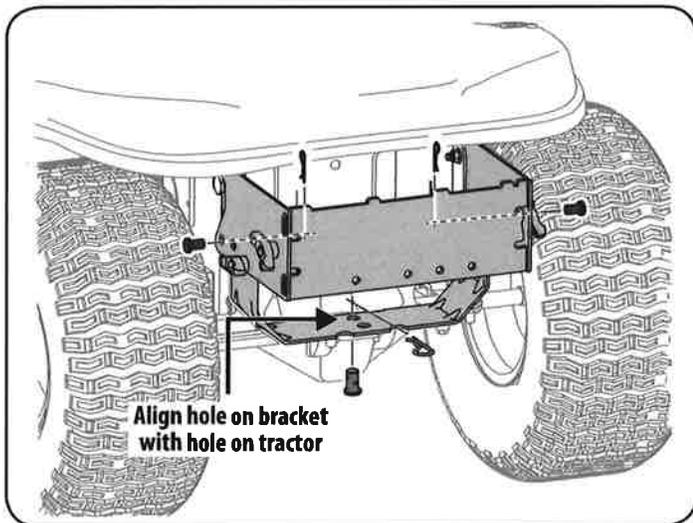

Figure 6
2. Install the clevis pin (711-0309A) from hardware pack 689-00328A into the tractor's hitch and secure with a hairpin clip (714-0117). See Figure 6.
3. Install two clevis pins, included with the shoulder bolt mounting brackets, through the mounting assembly and secure to the mounting brackets installed earlier with click pins included with the mounting brackets. See Figure 6.